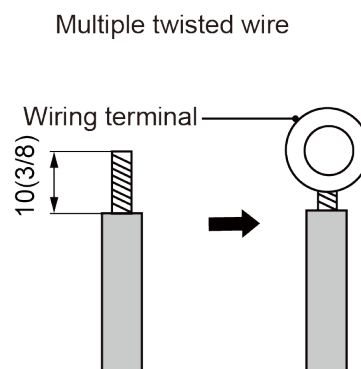

Fig.5.1.2
#### (2) The connection of stranded wire (as shown in Fig.5.1.2)